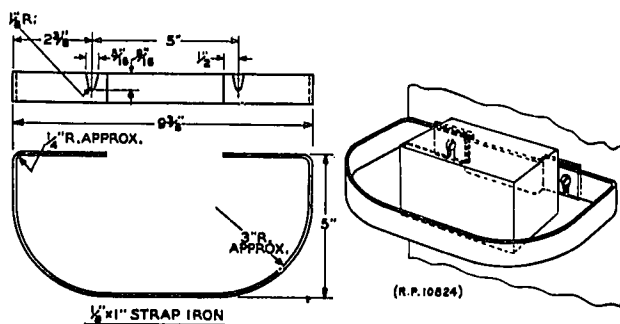

FIG. 3 TEMPORARY GUARD - SWITCH ASSEMBLY CABINET TYPE END GUARDS (PAR. 2.61)
2.61 When cabinet type end guards are provided the arrangement shown in Figure 3 may be used as a temporary guard for aisle lighting switch assemblies. (The permanent end guards are not installed until late in the installation period). The strap iron bands used as supports for frames to their shipping skids are satisfactory for these details.